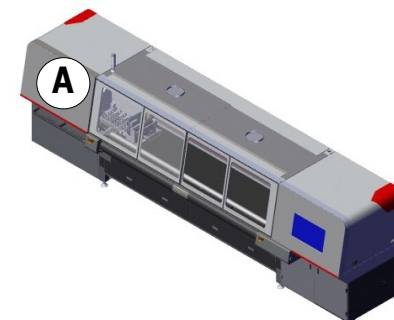

Figure 8-5 Printer Front
1. Open carriage compartment door, Figure 8-5 location (A).